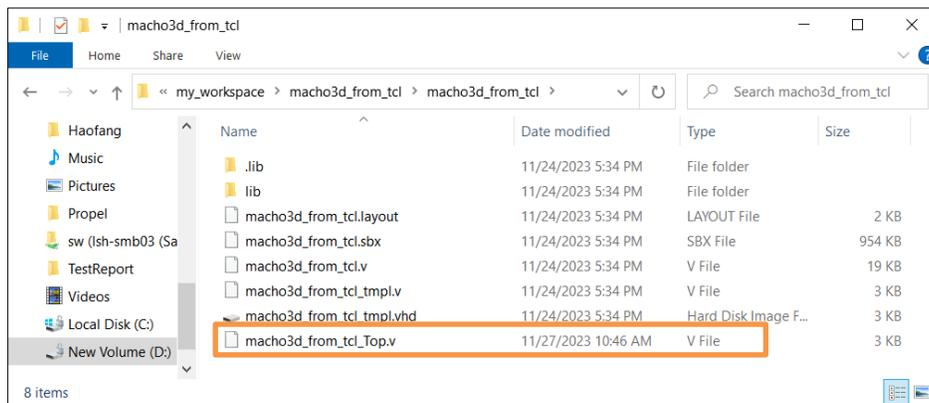

Figure 5.12. Rename Top File Copied from Source Project
- b. Rename the file to <new_project_name>_Top.v (Figure 5.12).